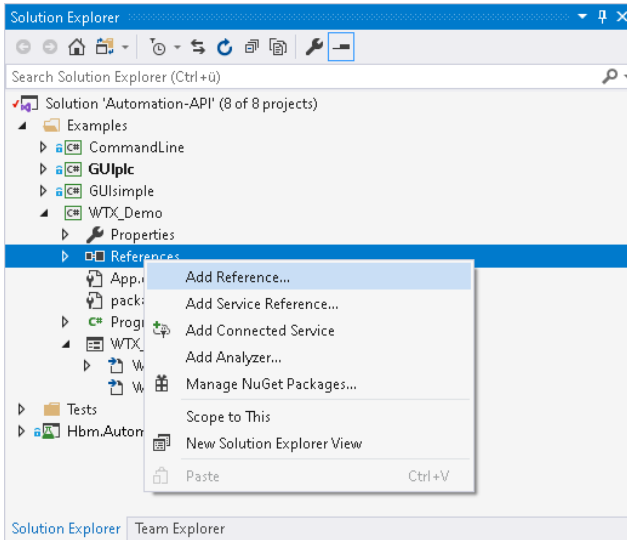
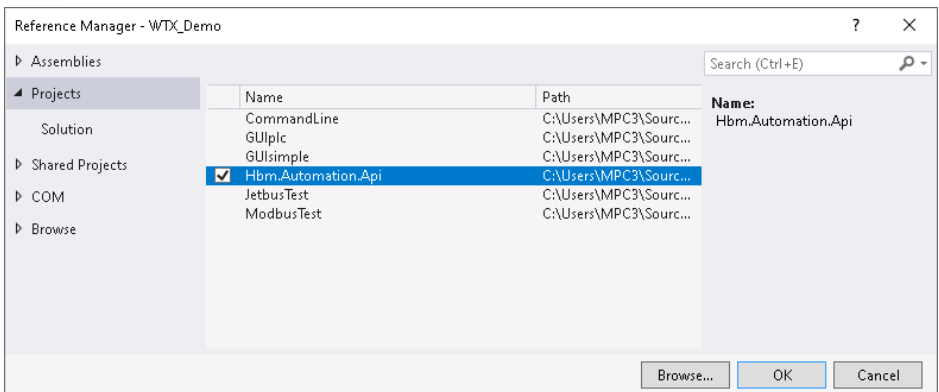

Fig. 7.8 Adding a reference
Fig. 7.9 Selecting the HBM Automation API
- ▶ Add the reference to the HBM Automation API (Fig. 7.8 and Fig. 7.9).